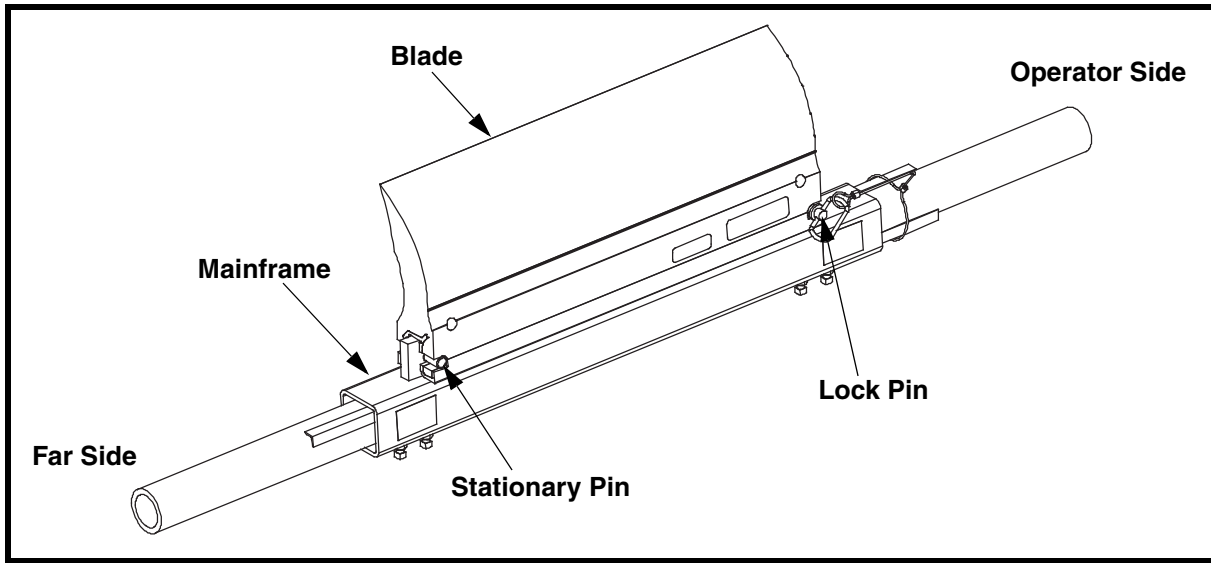

**Figure 2. Belt Cleaner Mainframe Location & Chute Wall Cutouts**
1. On operator side of chute, find pulley center point (A).
2. Measure radius of head pulley including lagging and belt thickness (B). To this dimension, add dimension X from table.
3. Starting from center point (A), measure the total distance calculated in step 2 (B + X) and draw an arc on chute wall.
4. Measure down from pulley's horizontal centerline the distance shown in Figure 2 and draw a horizontal line parallel to it. Locate center point of belt cleaner mainframe (C) where this line intersects the arc on the chute wall.